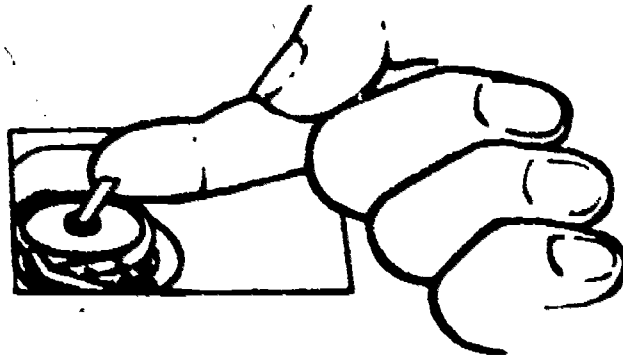

Figure 7. Lifting Bobbin Hatch.
6. Open the right bed slide, and lift the bobbin latch, as shown in figure 7.